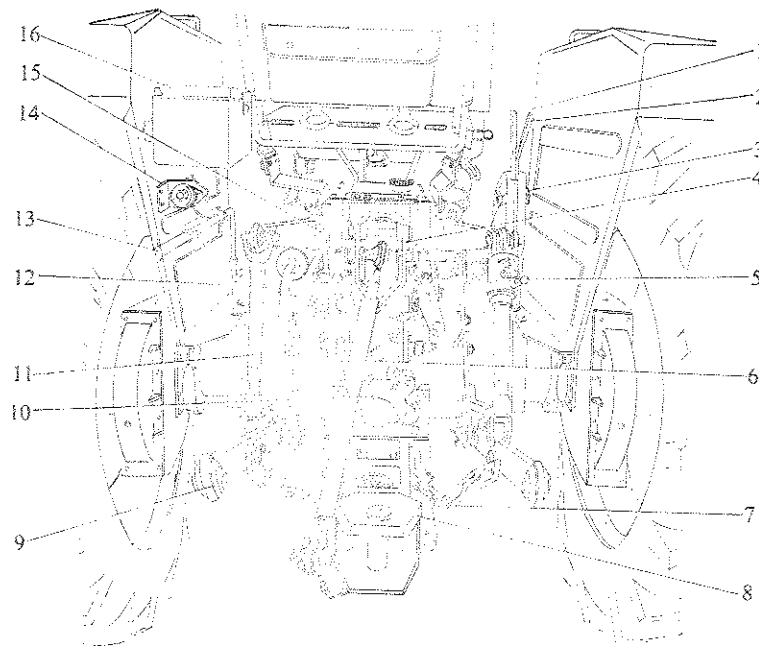

Fig. 4-2 Hitch linkages and part of the control mechanism
E. Operation of the lock lever (see Fig. 4-2)